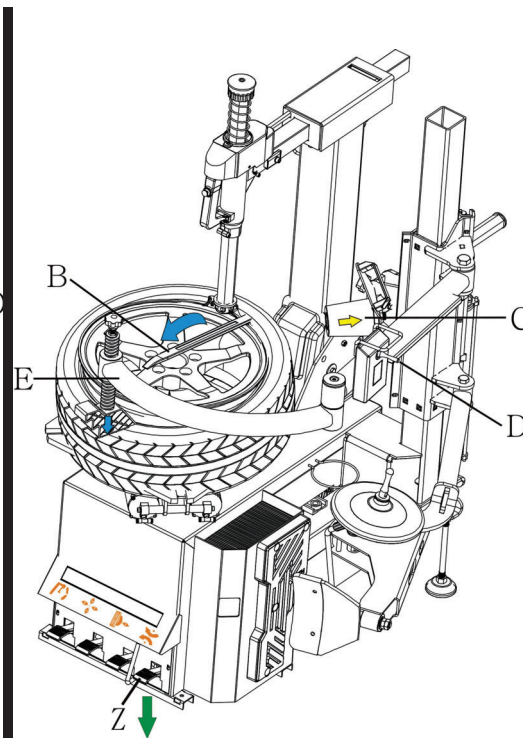

Fig.11
- Raise pressing arm C and pull it back. Turn pressing head E to the opposite side of the mounting head, press tire by turning switch handle D downward, pull lever B on the mounting head and make it parallel with the surface of rim as Fig.11.
- Depress pedal Z to turn the turntable, with the help of mounting head, the upper bead will be detached off as Fig. 11.